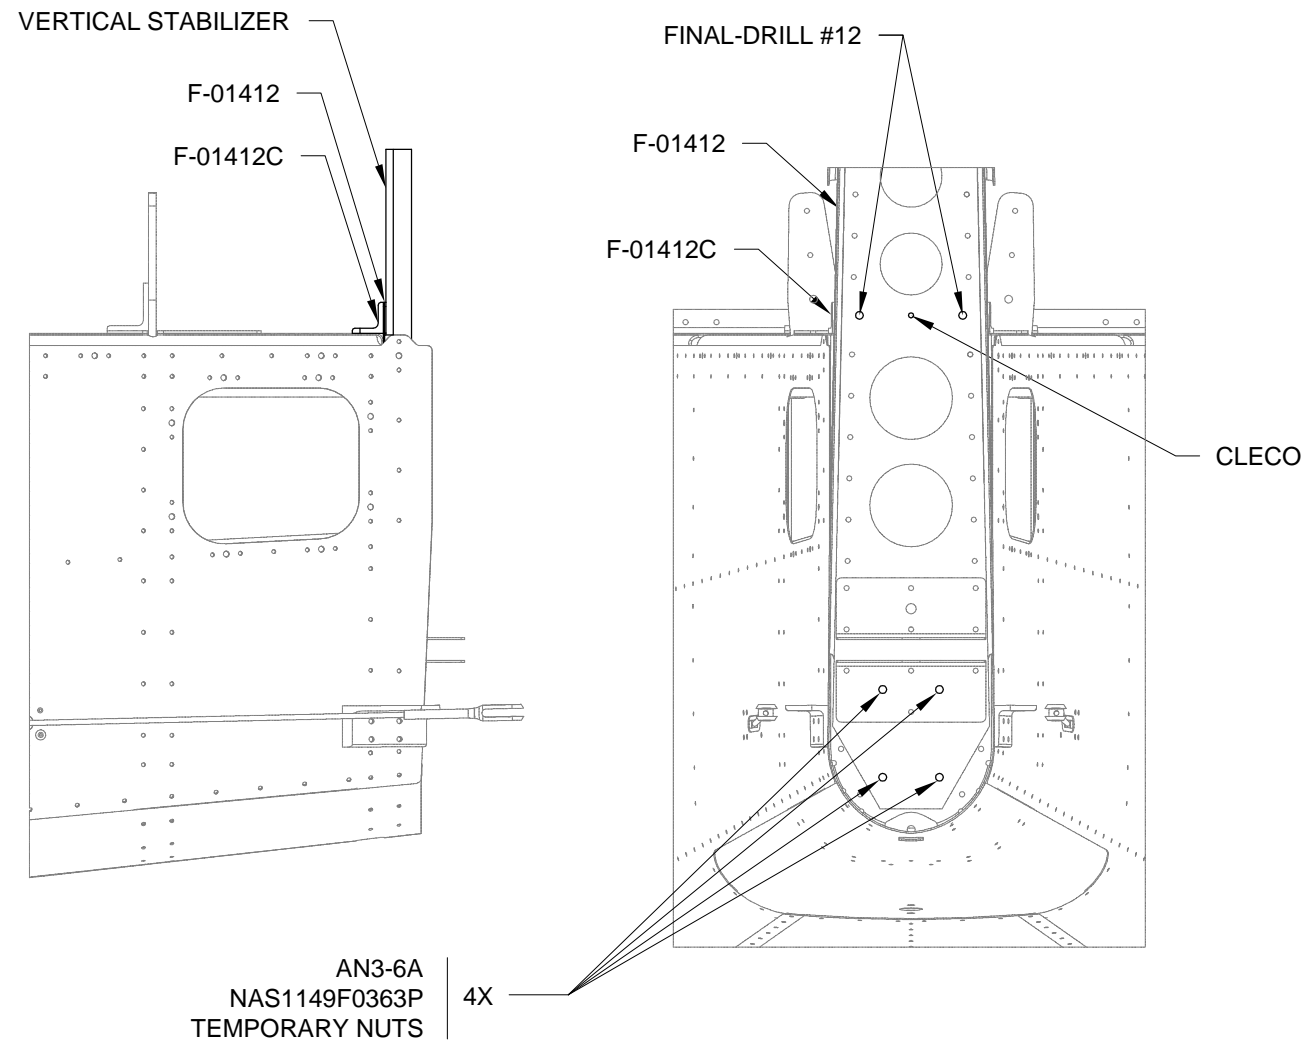

FIGURE 1: TRI-GEAR DRILLING
Step 1 (Tri-Gear): Cleco and temporarily secure the Vertical Stabilizer to the Aft Fuselage as shown in Figure 1.
Step 2 (Tri-Gear): Final-drill #12 the two holes in the vertical stabilizer into the F-01412 Bulkhead and F-01412C Deck Angle as shown in Figure 1.